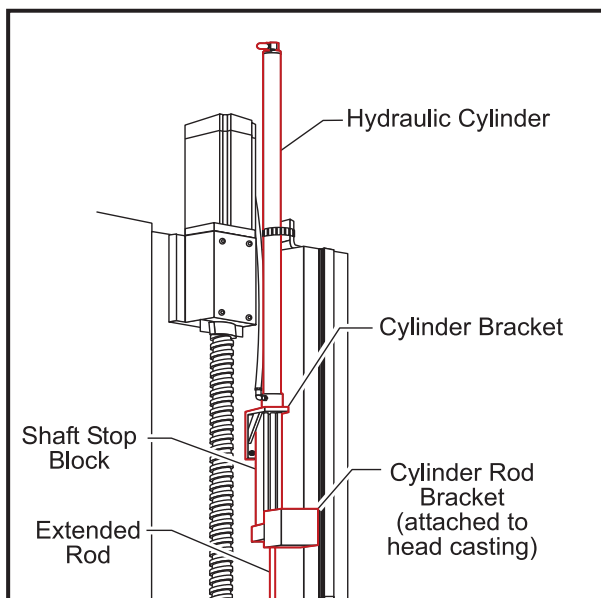

Figure 3.8-6 Z-axis motor and components for machines equipped with hydraulic counterbalance.
- a. If the machine is equipped with a hydraulic counterbalance, install cylinder shaft stop (See Fig. 3.8-6). HANDLE JOG Z-axis up until shaft stop blocks axis.